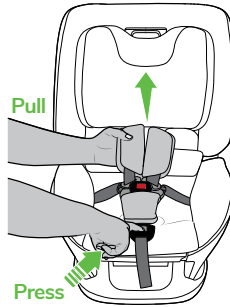

Figure 1
Step 1. Loosen harness straps by pushing down the harness release button at the front of the restraint and simultaneously pulling the shoulder straps (Figure 1).